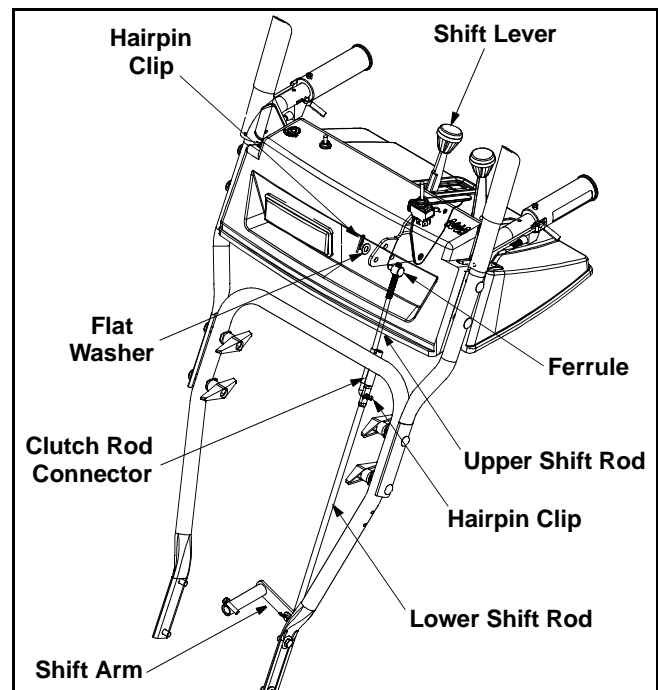

Figure 9
- Remove the hairpin clip and slide the shift rod connector up, to separate the upper shift rod from the lower shift rod. See Figure 9.